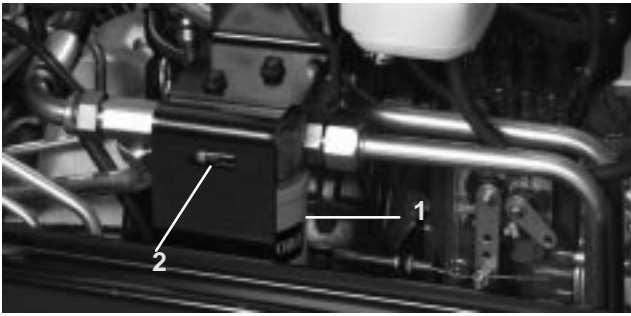

Figure 57
2. Clean area around filter mounting area. Place drain pan under filter and remove filter (Fig. 57).